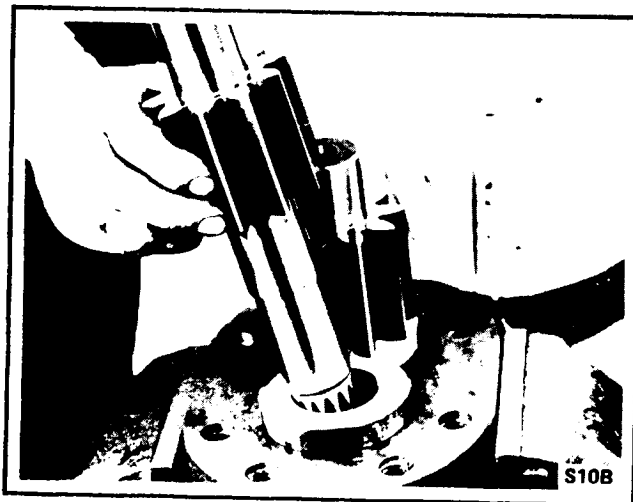

Fig. 11 - Removing Drive and Driven Gears
9. Remove the drive gear with shaft and the driven gear. Keep these together as they are a matched set. Take care not to damage the machined surfaces of the gears. See Fig. 11.